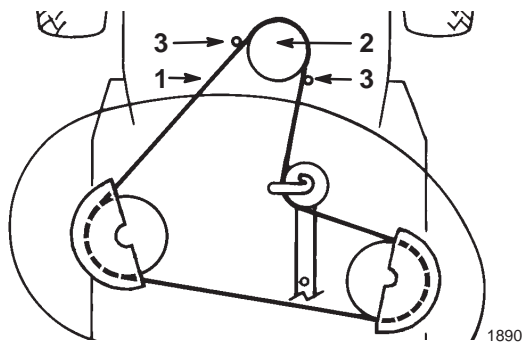

Figure 41
23. Remove the mower belt from the lower engine pulley (Fig. 41).
8. Install the mower belt onto the lower engine pulley (Fig. 41).